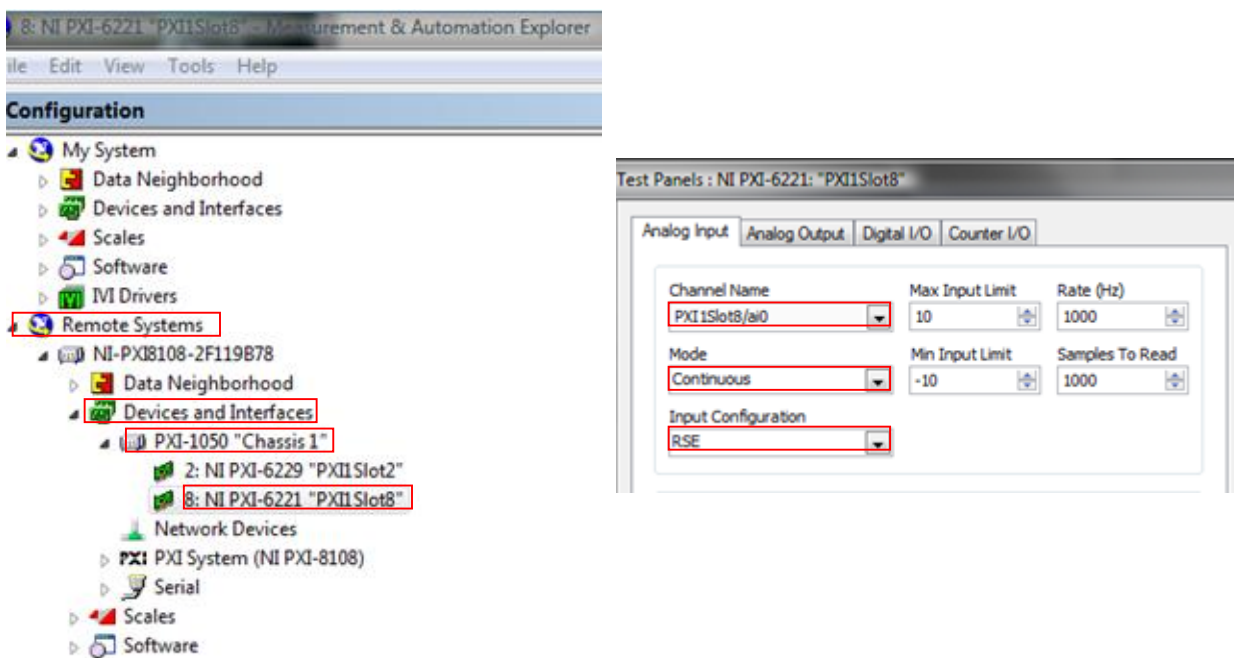

Figure 6-9
1. After adding the LVDT in the system explorer (section 6.3), open the MAX. Under the Remote Systems click on the tab **NI-PXI8108-2F119B78/Devices and Interfaces/PXI-1050 "Chassis 1" / 8: NI PXI-6221 "PXI1Slot8"**. See Figure 6-9 left for the path.
2. On the right side of the MAX window, a corresponding window will then show for you to operate the PXI1Slot8 as selected. Click on the tab **"Test Panels"** as shown on the right of Figure 6-9..
- Find the associated channel number from the “SCB-68 Quick Reference label” box and state it under the Channel Name table. For Mode, choose **Continuous** .The **Input Configuration** should be **RSE**, short for Reference Single EndedRun Workspace. See Figure 6-9 right.